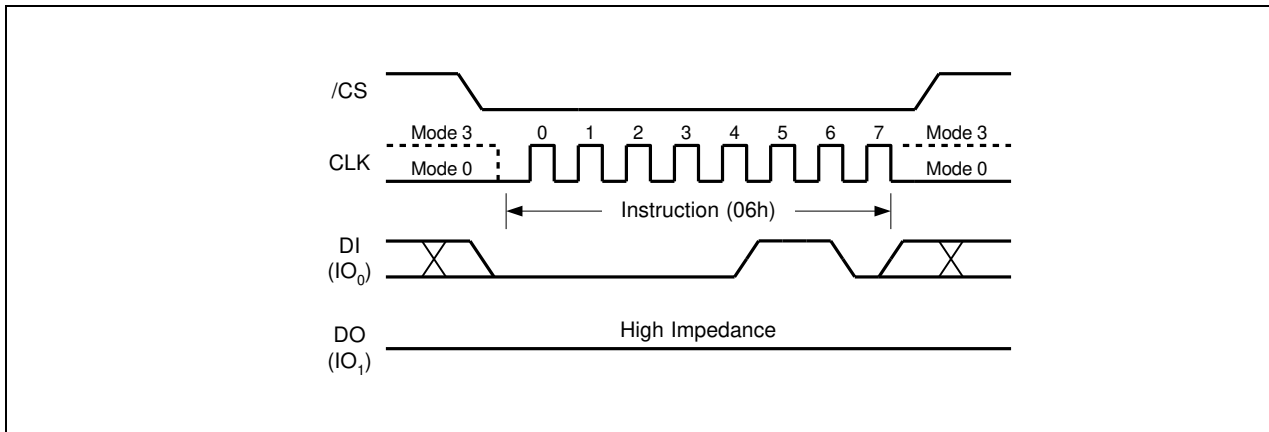

Figure 5. Write Enable Instruction for SPI Mode
The Write Enable instruction (Figure 5) sets the Write Enable Latch (WEL) bit in the Status Register to a 1. The WEL bit must be set prior to every Page Program, Quad Page Program, Sector Erase, Block Erase, Chip Erase, Write Status Register and Erase/Program Security Registers instruction. The Write Enable instruction is entered by driving  $\overline{\text{CS}}$  low, shifting the instruction code "06h" into the Data Input (DI) pin on the rising edge of CLK, and then driving  $\overline{\text{CS}}$  high.